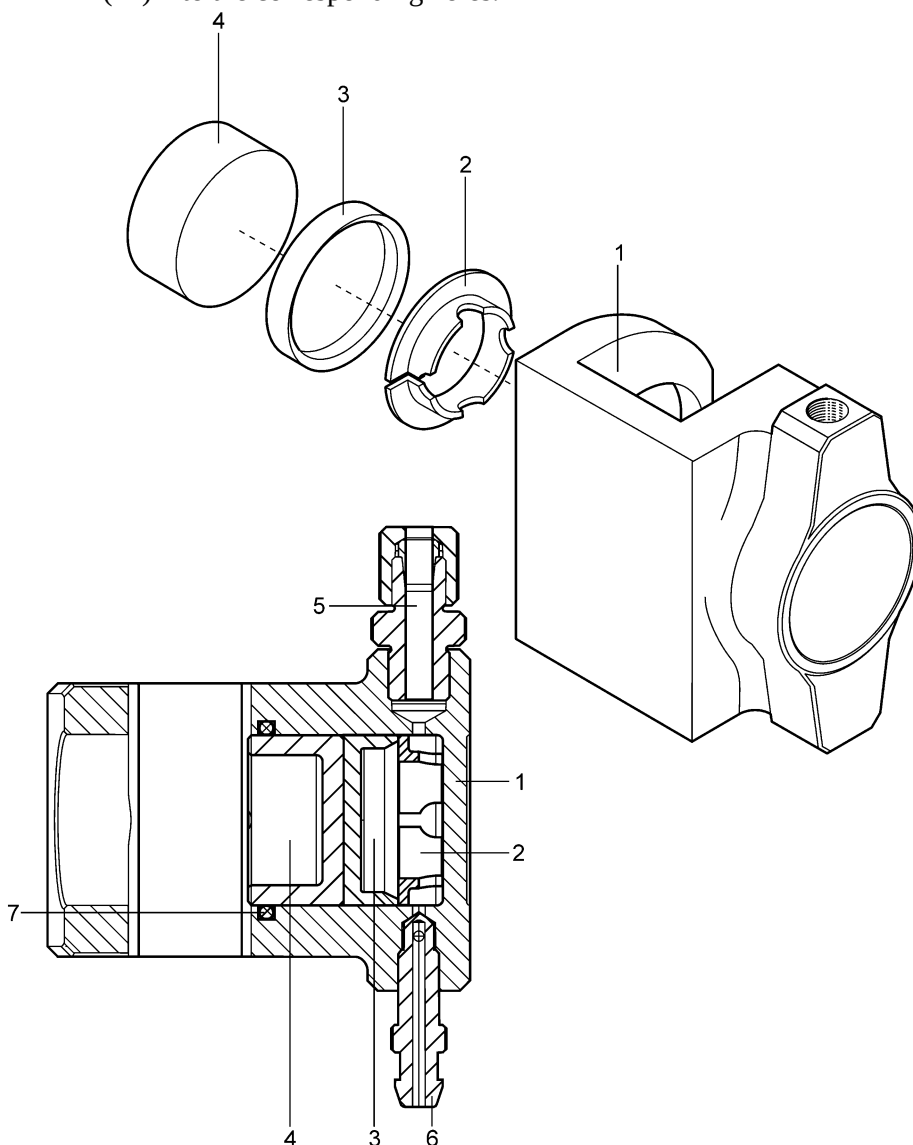

Fig. 2 –Installation of brake caliper cuff stop.
- 1.3.2.2 Insert the correctly oriented cuff stop (2, Fig. 2) and push it all the way to the bottom of brake caliper body (1).
Legend to Fig. 2